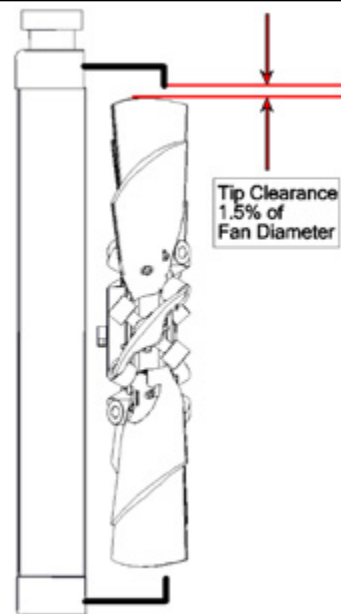

Figure 9
4. Rotate the fan by hand and check for obstructions. Connect the pneumatic or hydraulic hose to the fan the do a final check. Spin the fan by hand with the blade pitch reversed and check for obstructions and proper tip clearance. Flexxaire recommends 1.5% of fan diameter for adequate clearance. Your design may require additional clearance. See figure 9.